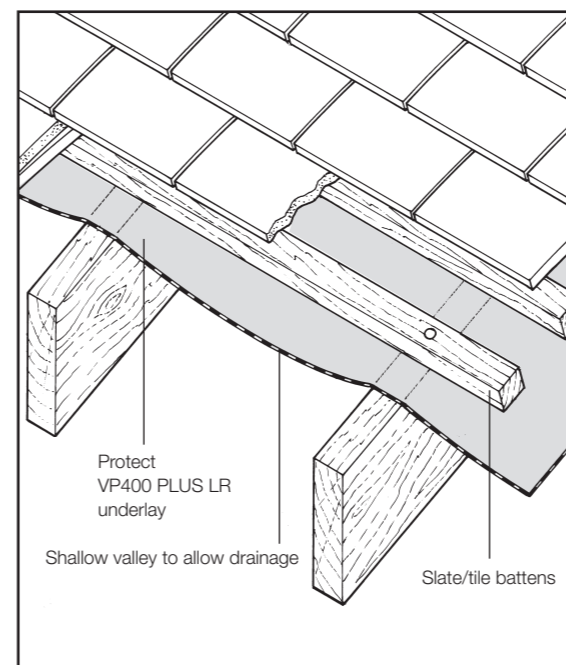
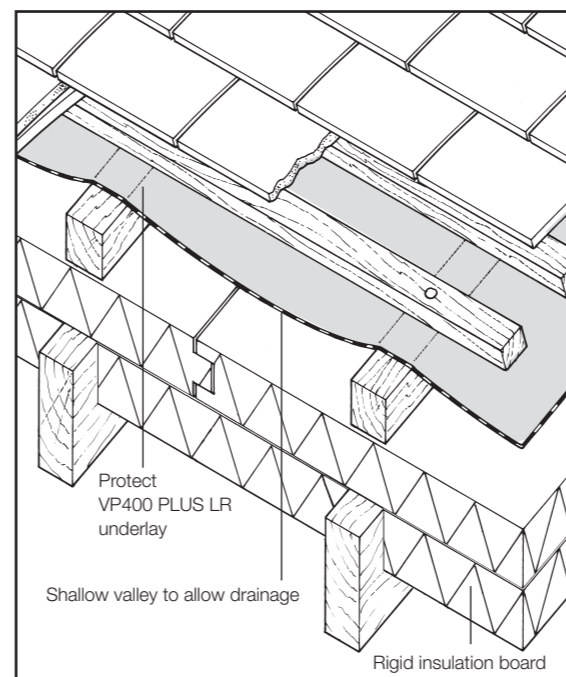
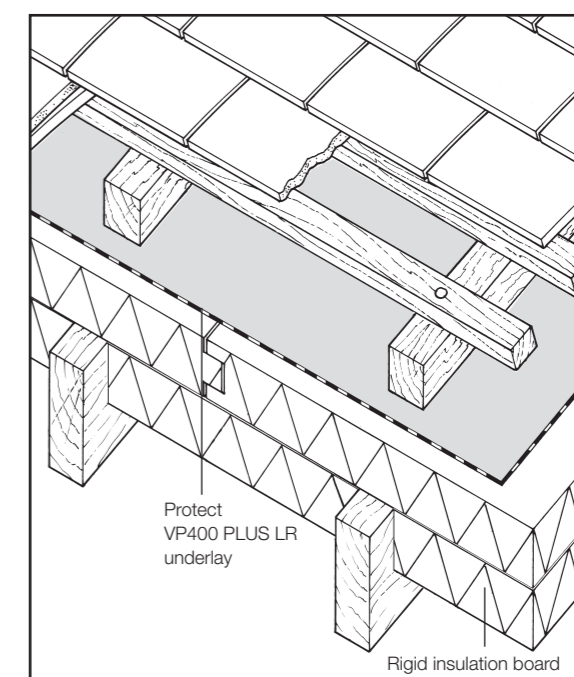

Fig 1
Fig 3
Fig 4
- Protect VP400 PLUS LR vapour permeable underlay may be used for cold roofs with ventilated or unventilated loft spaces (see Figs 1 and 2) or warm roofs with insulation between and or above rafters (see Figs 3 and 4).
This can be achieved with Glidevale Fascia/ Soffit vents at low level and Protect Rediroll/ Glidevale Tile/Slate Ventilators at high level. (see Fig 1)
unsupported (see Fig 3) or fully supported on insulation (see Fig 4). To ensure the integrity of a well sealed ceiling, a separate vapour control layer such as Protect VC Foil Ultra must also be used on the warm side of the insulation.